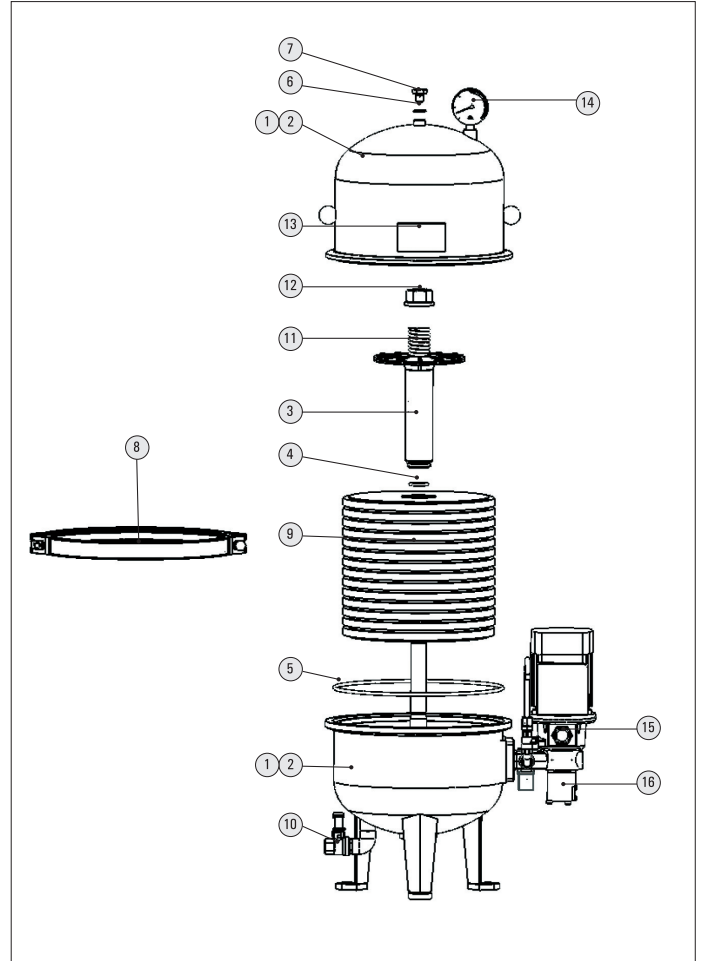

Fig. 5. Filter details HPS 27/27, 54.
Make sure that all valves are shut. See Fig. 5. Unscrew the clamp ring (8) and lift off the housing (1). Unscrew the top nut (12) and remove the spring (11) and the spring guide (3).
See Fig. 5.